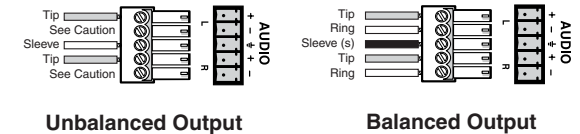

Figure 2-11 — Captive screw connector wiring for audio output
- ⑧ **3.5 mm, 5-pole captive screw connectors** — Connect balanced and/or unbalanced stereo audio outputs to these sockets using connectors which are included with each MMX SVA switcher (you must supply the audio cable). See figure 2-11 for an illustration on how to wire a connector for the appropriate output type.